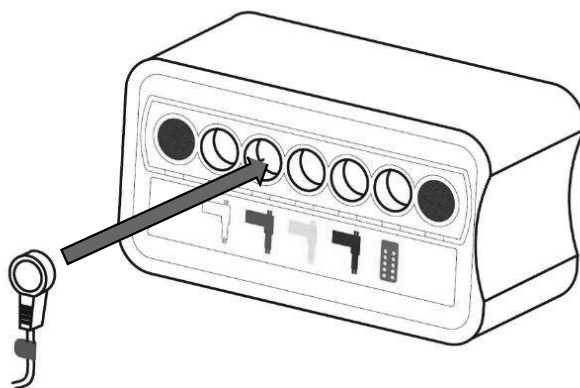

Figure 10: Connecting the controller
2. The connectors to plug into the controller are all colour coded, as are the sockets on the controller. Plug each connector into the corresponding socket on the controller (*Figure 10*).